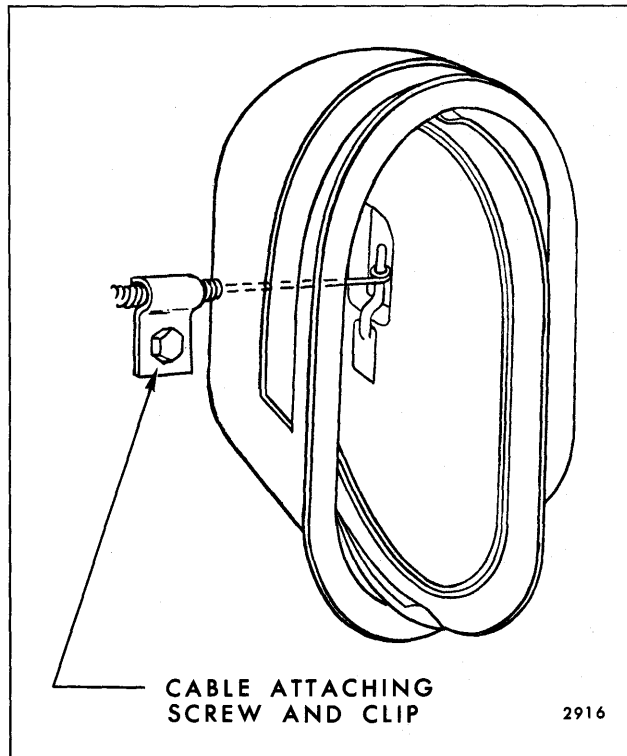

Fig. 5-3—Shroud Side Air Outlet Duct Assembly - "B, C & E" Except 26657 Body Styles
2. Loosen cable attaching screw and clip and disengage control cable from outlet door (Fig. 5-3).
2. Loosen attaching screw securing cable to shroud side air outlet duct assembly (Fig. 5-3).